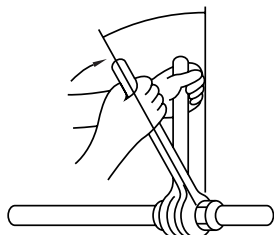

Fig. 5-8
- Apply a thin coat of refrigeration oil on the seat surface of pipe. (Fig. 5-8)